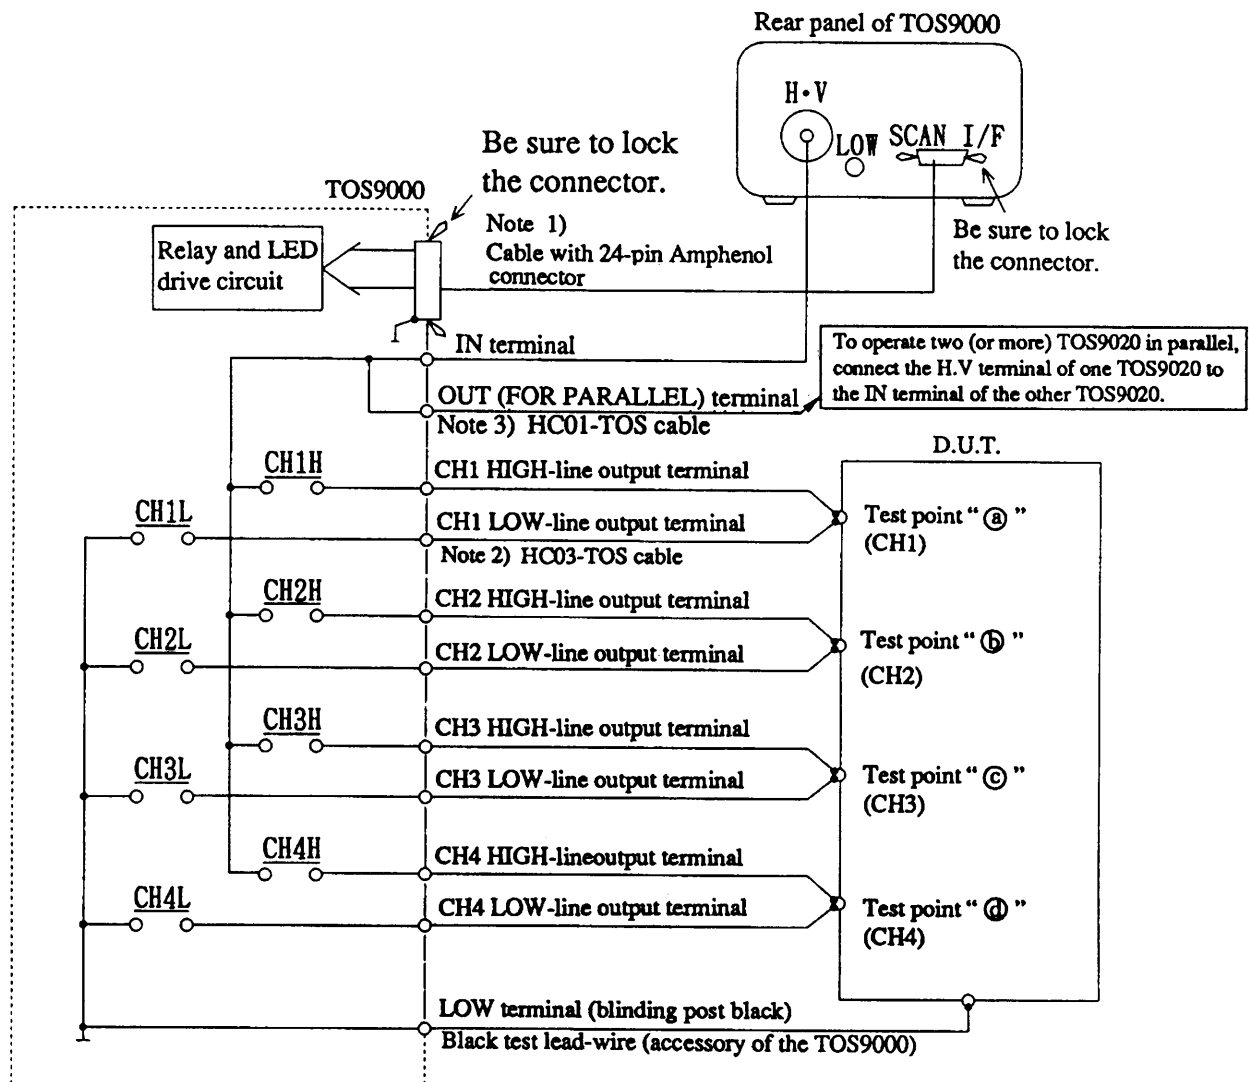

Figure 4.3
- (1) When you operate the TOS9020 in the single-scanning mode described in Chapter 4.3.2, connect the LOW terminal ⑥ (black binding post terminal) on the rear panel to the D.U.T. with the black test lead-wire which is an accessory of the TOS9000.
- (2) Connect the SCAN I/F ⑨ connector on the rear panel to that of TOS9000 with the signal cable which has 24-pin Amphenol connectors (accessory of TOS9020). Be sure to lock the connectors after connecting them.
- (3) Connect the HIGH-line output terminals ⑫ and LOW-line output terminals ⑧ on the rear panel to respective test points with HC03-TOS cables as shown in Figure 4.3.
In the multi-scanning mode of test operation, any two of the four test points (“a” through “d”) of the D.U.T. as shown in Figure 4.3) can be selected and the selected two points can be designated to be a HIGH-line and a LOW-line (either one for the HIGH-line and the other for the LOW-line) by the TOS9000.
Assume that, referring to Figure 4.3, you execute a test between test point “(a)” and “(b)” (between channels “1” and “2”) by designating the former for the LOW-line and the latter for the HIGH-line.
As a test starts with these test parameters, only two (CH1L and CH2H in Figure 4.3) of the internal relays of TOS9020 are energized. Thereby, the lower side voltage (potential of the lower line) is connected to the test point “(a)” via the CH1 LOW-line output terminal and, the high voltage (potential of the H.V line) is connected to the test point “(b)” via the CH2 HIGH-line output terminal. Of the relay drive indicators on the front panel, the green LED lights for CH1 and the red LED lights for CH2 to indicate the actions of the internal relays of TOS9020.
As a test starts with these test parameters, the two (CH1H and CH2L in Figure 4.3) of the internal relays of TOS9020 are energized. Thereby, the high voltage side (potential of the H.V line) is connected to the test point “(a)” via the CH1 HIGH-line output terminal and, the lower side voltage (potential of the lower line) is connected to the test point “(b)” via the CH2 LOW-line output terminal. Of the relay drive indicators on the front panel, the red LED lights for CH1 and the green LED lights for CH2 to indicate the actions of the internal relays of TOS9020.
Assume that, referring to Figure 4.3, you execute a test between test point “(a)” (channel 1) of the D.U.T. and test point “(e)” which is connected to the LOW terminal ⑥ (black binding point terminal) on the rear panel.
As a test starts with these test parameters, only one (CH1H in Figure 4.3) of the internal relays of TOS9020 is energized. Thereby, the high voltage side (potential of the H.V line) is connected to the test point “(a)” via the CH1 HIGH-line output terminal. Of the relay drive indicators on the front panel, the red LED lights to indicate the internal relay action of TOS9020.